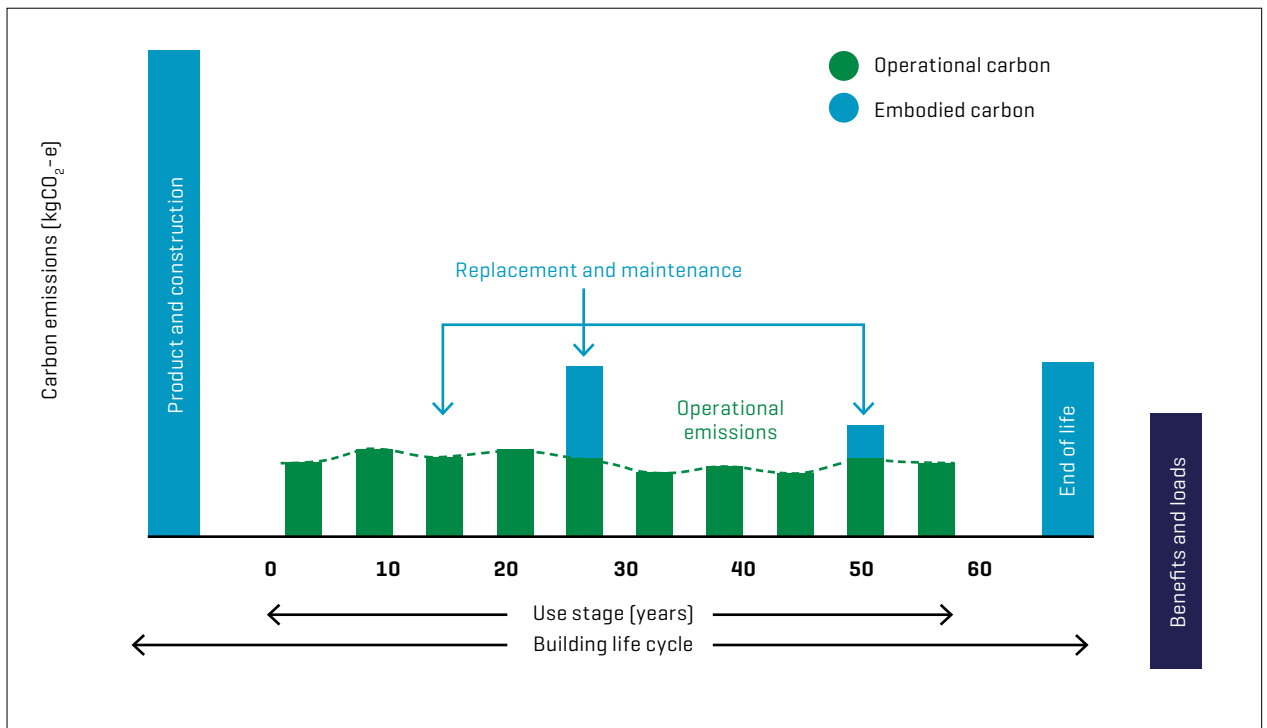

Figure 1. How embodied carbon and operational carbon relate over the building life cycle. (Bar length measurements are broadly indicative only.)
**2.0.1** Embodied carbon emissions are assessed over the life cycle of a building (Figure 1). [For a more detailed explanation of life cycle assessment, see BRANZ Bulletin 596 *An introduction to life cycle assessment* and BRANZ Bulletin 608 *Building life cycle assessment*.]